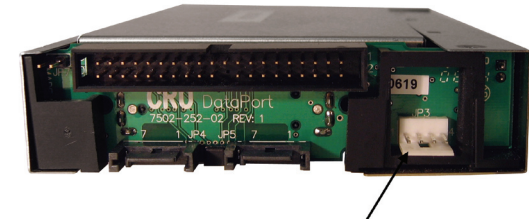

Figure 3 – Location of JP3 Power Plug
6. If no rails are required, use the screws provided to secure the frame assembly in the computer case with the frame's side mounting holes (see Figure 3). Your DataPort frame also has bottom mount holes in case you need to bottom mount the unit.